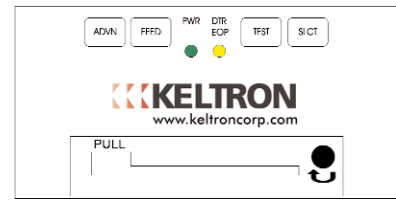

Figure 6
- 1) To replace the printer ribbon, pull the existing ribbon cartridge forward to remove it; see figure 6.